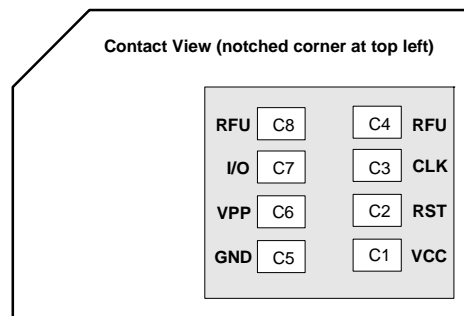

Figure 3-5: SIM Card Contacts (Contact View)
a. See Figure 3-5 on page 29 for SIM card contacts.